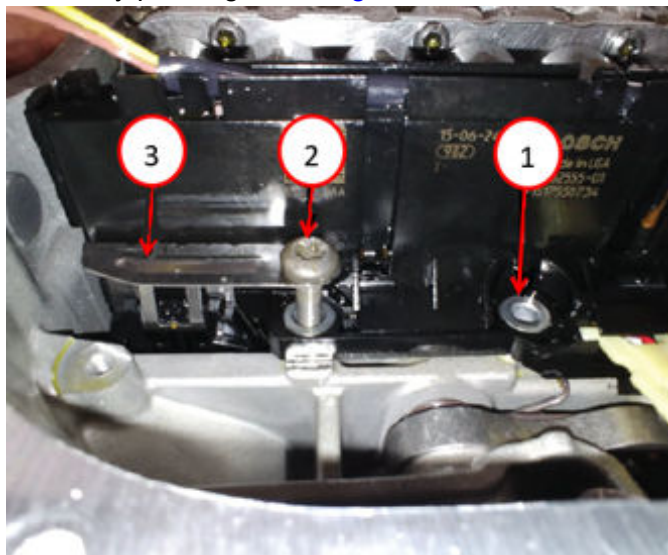

Fig. 44
67. When installing the Output Speed Sensor (OSS) into the case, take care to position the OSS guide pin as shown below or damage to the sensor may result. **This is the incorrect alignment of the pin Fig. 44.**